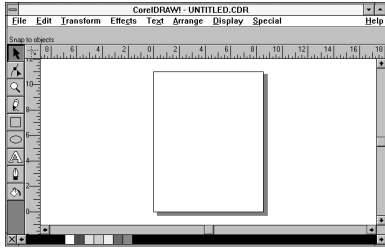

Fig. 1
1. Open the Corel Draw 3.0 program by double clicking on the Corel Graphic group icon. Then double click on the Corel Draw icon. This will bring up a portrait orientated page 8 1/2 X 11 inches. The screen should look as it does in **Figure 1**.